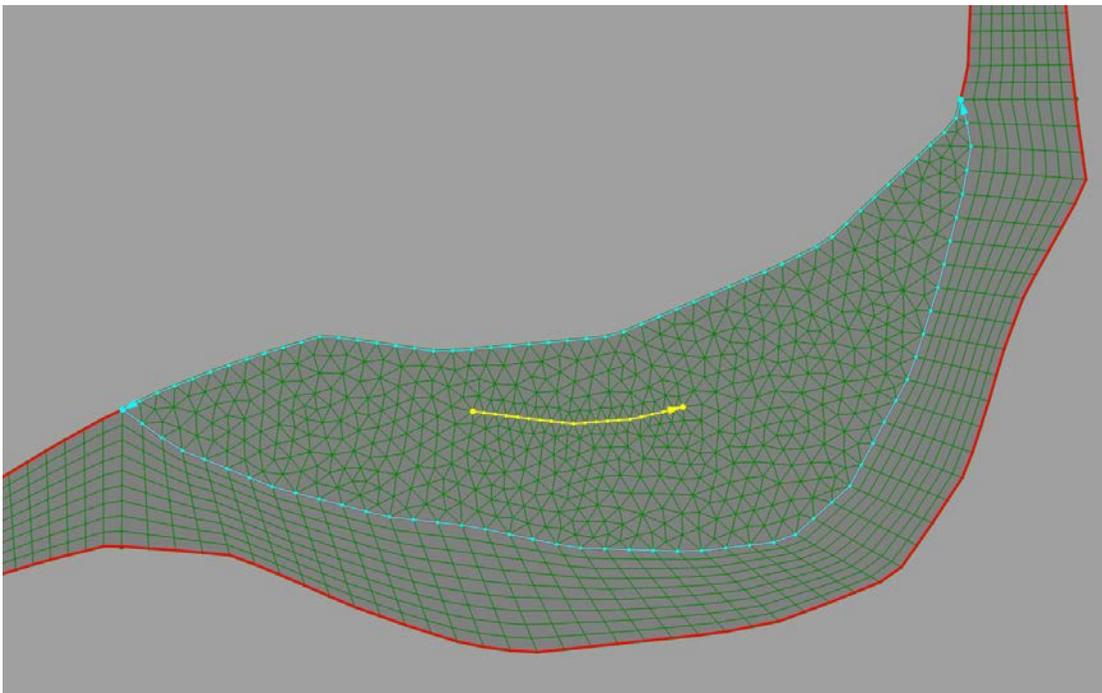

Figure 5-12. Bed roughness for the point bar.
Step 9: Click the select mesh button  and then click a point inside the mesh for point bar to select the mesh. Click the set mesh roughness zone button . Change the bed material to 2, which is for a point bar. (Figure 5-12).